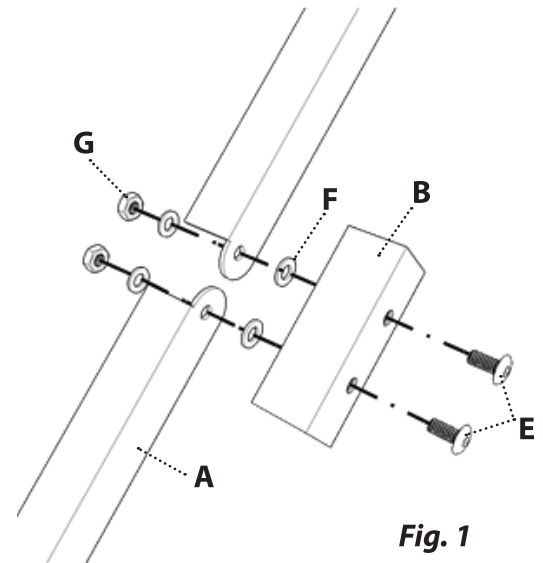

Fig. 1
Step 1. Assemble the pivot bracket assembly. (See Fig. 1)